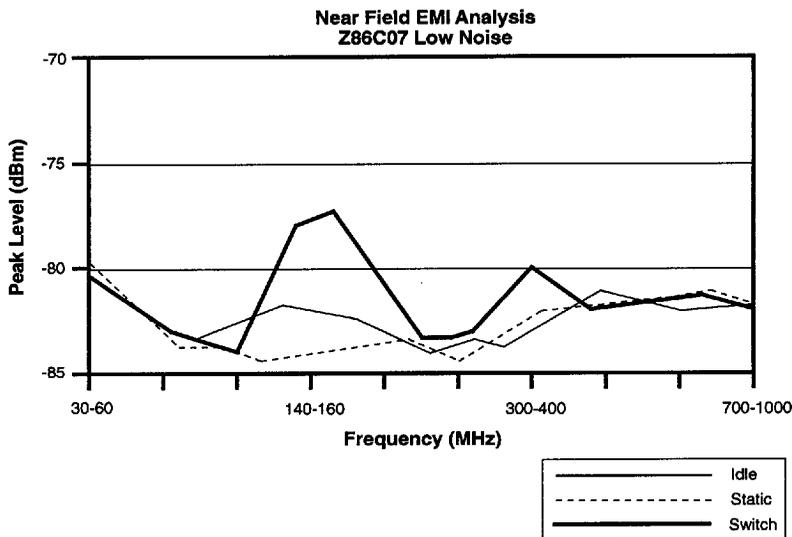

Figure 17. Low Noise Analysis
The measurements shown in Figure 17 were made while operating the Z86C05/C07 in three states: (1) Idle condition; (2) static output; (3) switched output.